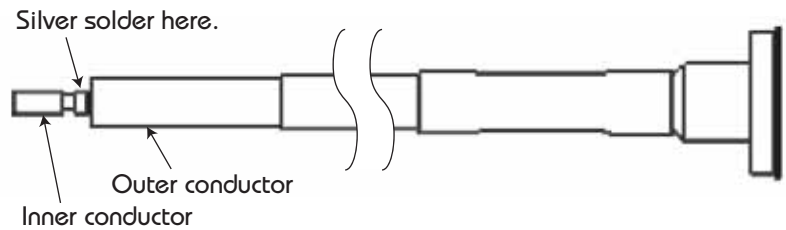

Figure 2. Install the inner conductor end.
Step 2. Install the inner conductor end (figure 2).